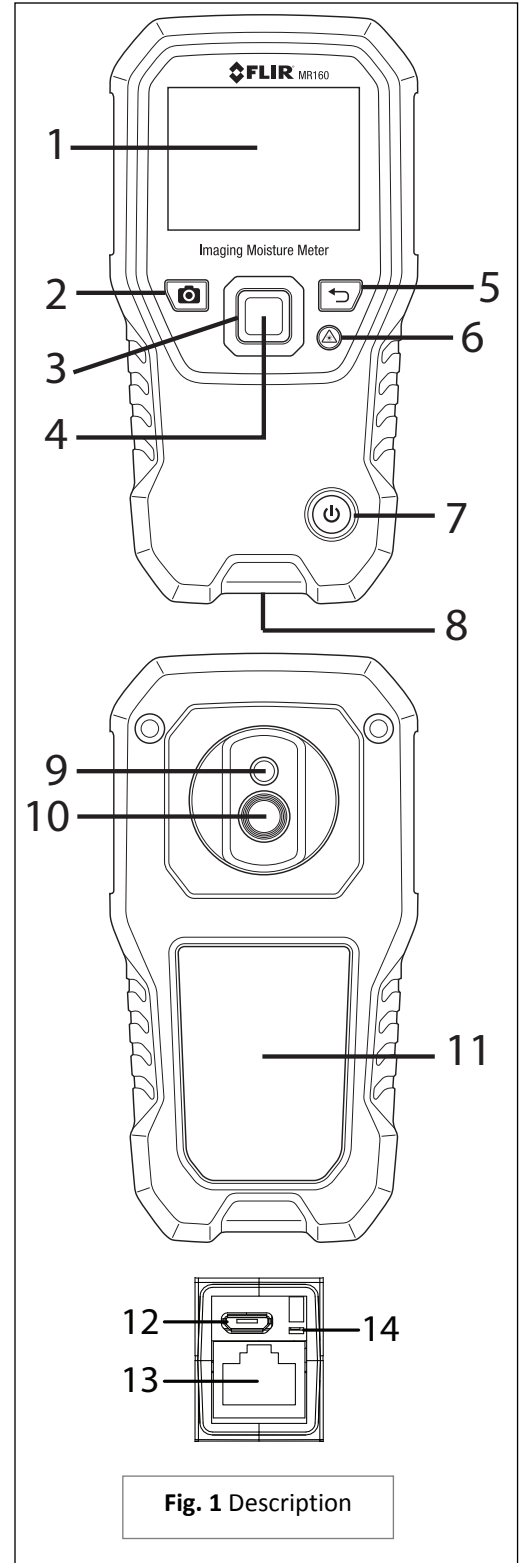

Fig. 1 Description
- For Fig. 1 at right, see the descriptions below:
3. Four (4) Navigation buttons (rim)